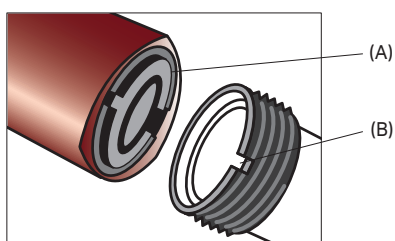

Fig 3. Adapter unit and slot on column tube threads.
2	Place the filter holder into the bottom of the column tube and secure it with the cap. Make sure the inner locking device keys with the slot on the column tube threads (Figure 3, on page 3, A). Insert a stop plug into the bottom unit.
- 7 Screw the adapter unit onto the column tube, ensuring that the inner part keys with the slot on the column tube threads (Figure 3, on page 3, A).